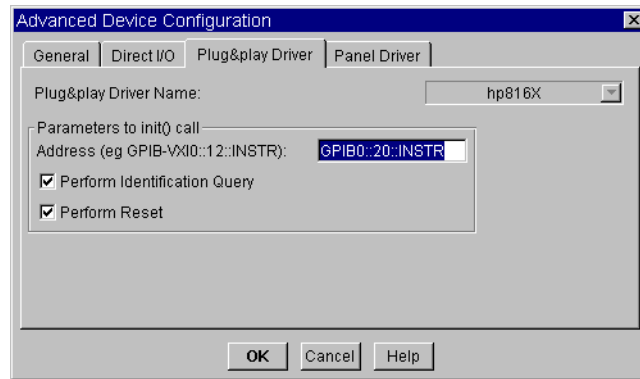

Figure 10 Advanced Device Configuration - Plug&play Driver
- 4 Press Advanced I/O Config ..., the Advanced Device Configuration box pops up. Select the Plug&play Driver tab, the box in Figure 10 on page -259 appears.